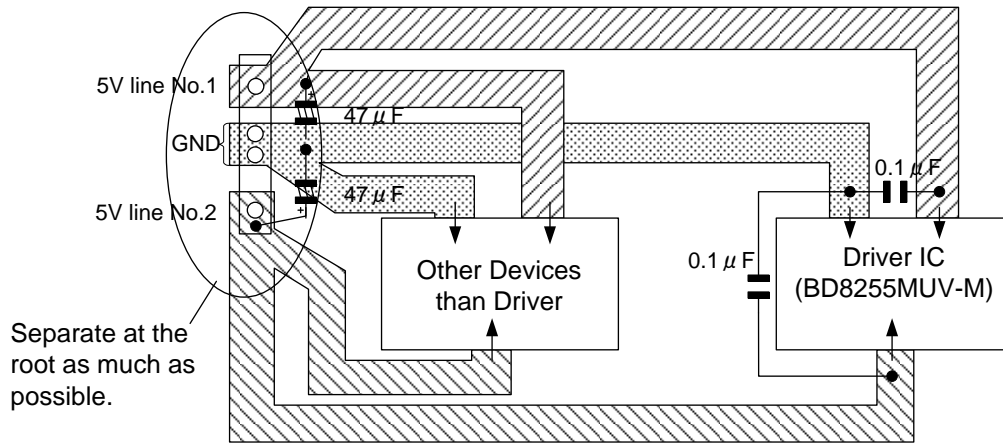

Figure 25. Pattern Example
- (1) Reduce impedance in wiring for the driver's 5 V power supply (SPRNF, SLRNF1, SLRNF2, PREVCC, AVM) and power GND (SPGND, SLGND, ACTGND) lines where high current flows. Make sure that they be separated from power supply lines of other devices at the root so that they do not have common impedance. (Figure 25.)